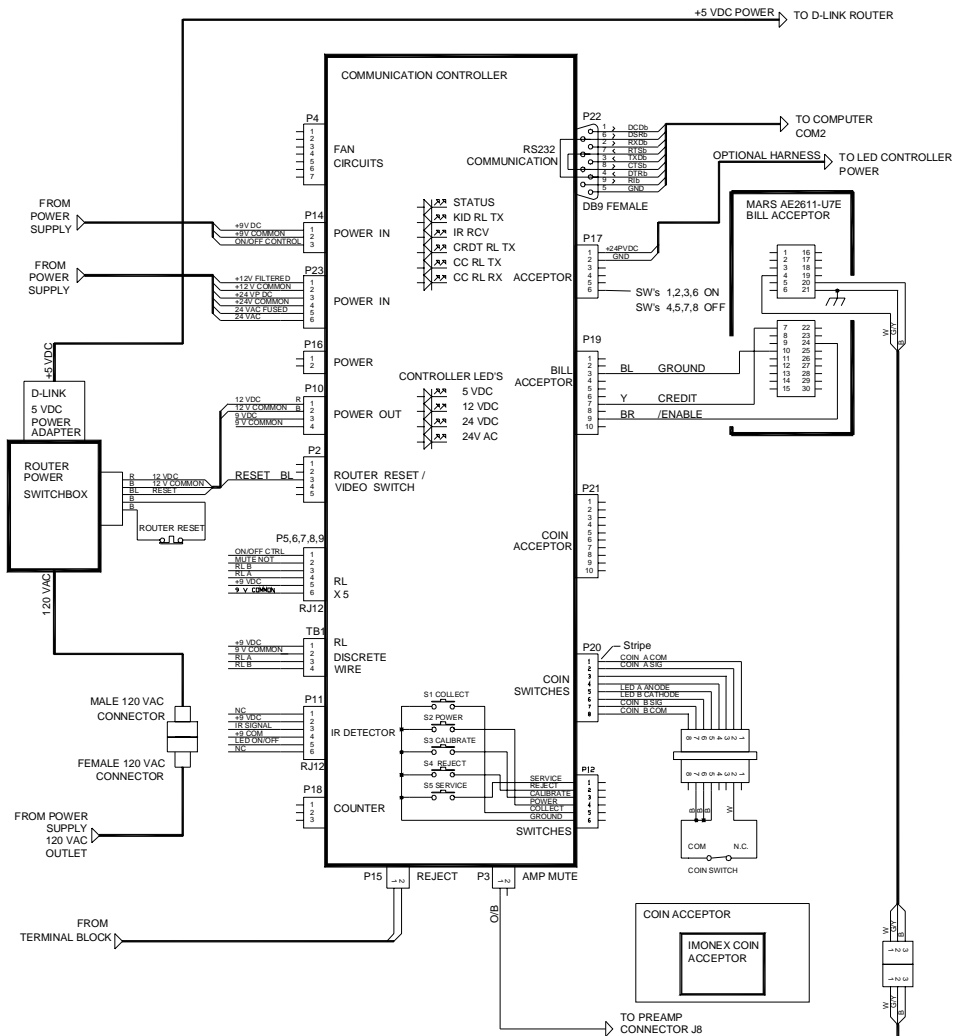

FIGURE 7-2- COMMUNICATION CONTROLLER WIRING DIAGRAM
- Wiring diagrams (see Figures 7-2 through 7-5) to help you isolate the problem to a harness or a module.